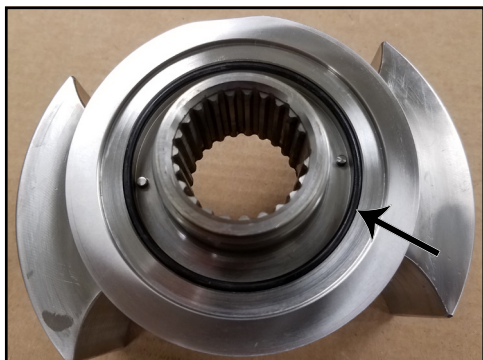

Figure 248 - Sleeve front O-ring
2. Figure 248 shows the sleeve front O-ring installed.